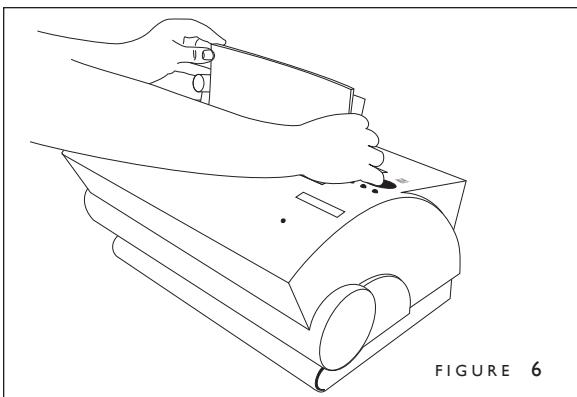
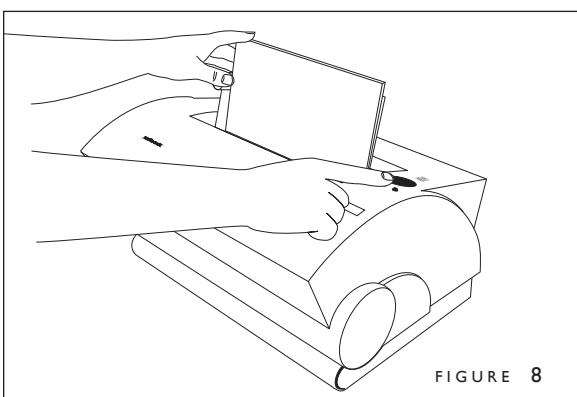

FIGURE 6
FIGURE 8
2. Place paper in the book cavity aligned to the right side. The jogging motor will automatically start (Fig. 6). Lightly apply pressure to the top edge of the paper and allow the machine to jog for a few seconds to ensure that all the sheets are properly aligned before splitting (Fig. 8).
3. Continue to press lightly on the top edge of the paper and push the green button (Fig. 8). The jogging motor stops, the paper is clamped, and the splitting process begins. The display will read: "WORKING."